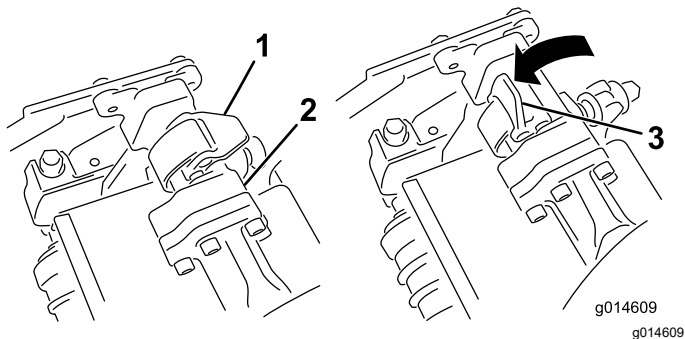
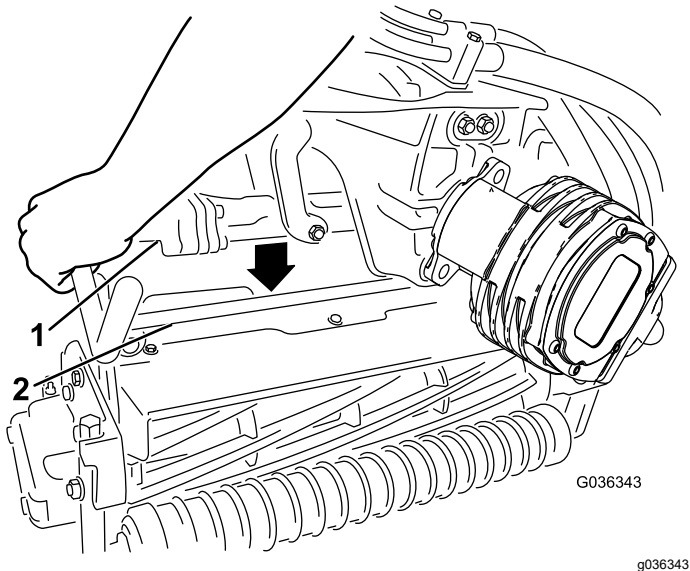

Figure 65
Figure 66
4. Open the latches on the suspension-arm bar (Figure 65) and push the suspension arm down so that the bar fits over both pitch arms on the cutting unit and ensure that the latches go underneath the cutting-unit crossbar (Figure 66).
5. Close the latches down and around the cutting-unit bar and lock them in place (Figure 65).
6. Open the latches on the suspension-arm bar of the cutting unit you are removing (Figure 65).